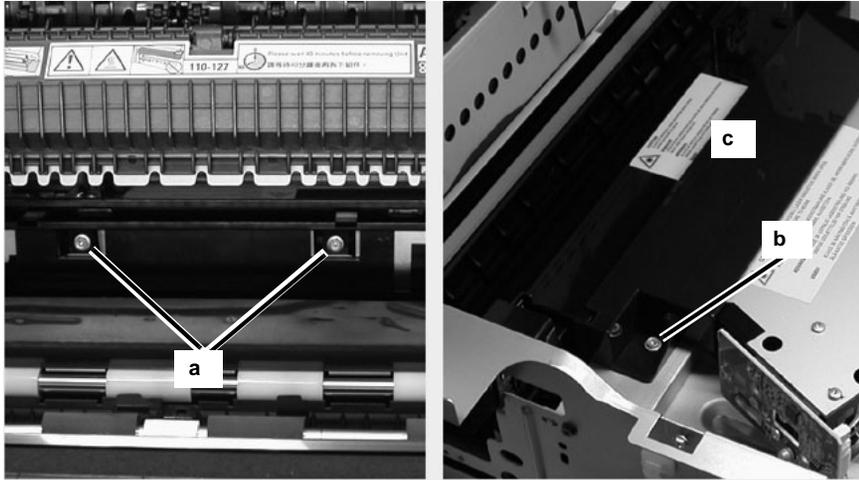

Figure 8 Removing Screws
9. Remove the ROS Cover (Figure 8).
- a. Remove the Screws (2) on the left side of the cover.
- b. Remove the top Screw (1).